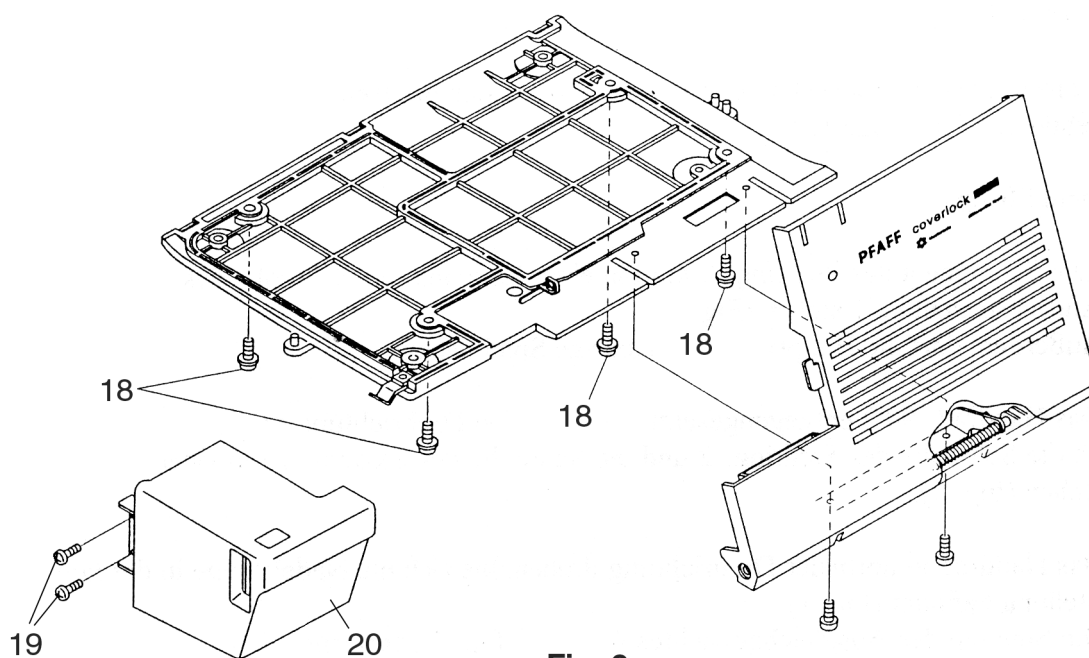

Fig. 9
- Unscrew and remove the four fastening screws 18 on the baseplate (fig. 9).